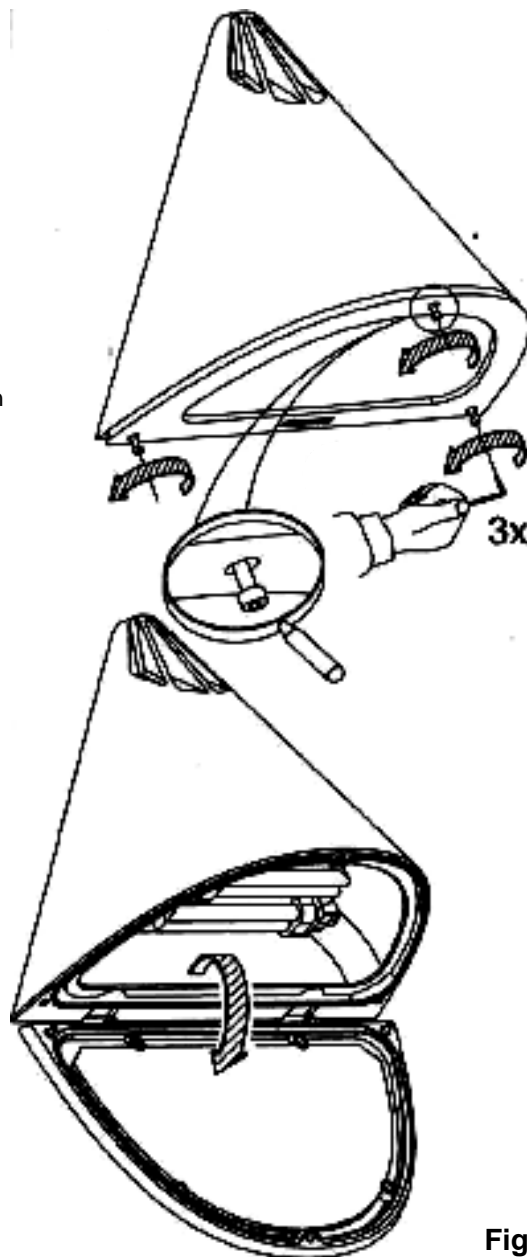

Fig. 1
2. Unscrew the 3 off screws from the glass retaining frame using a 3mm Allen key (fig 1). Screws are retained by washers and should remain in the frame.